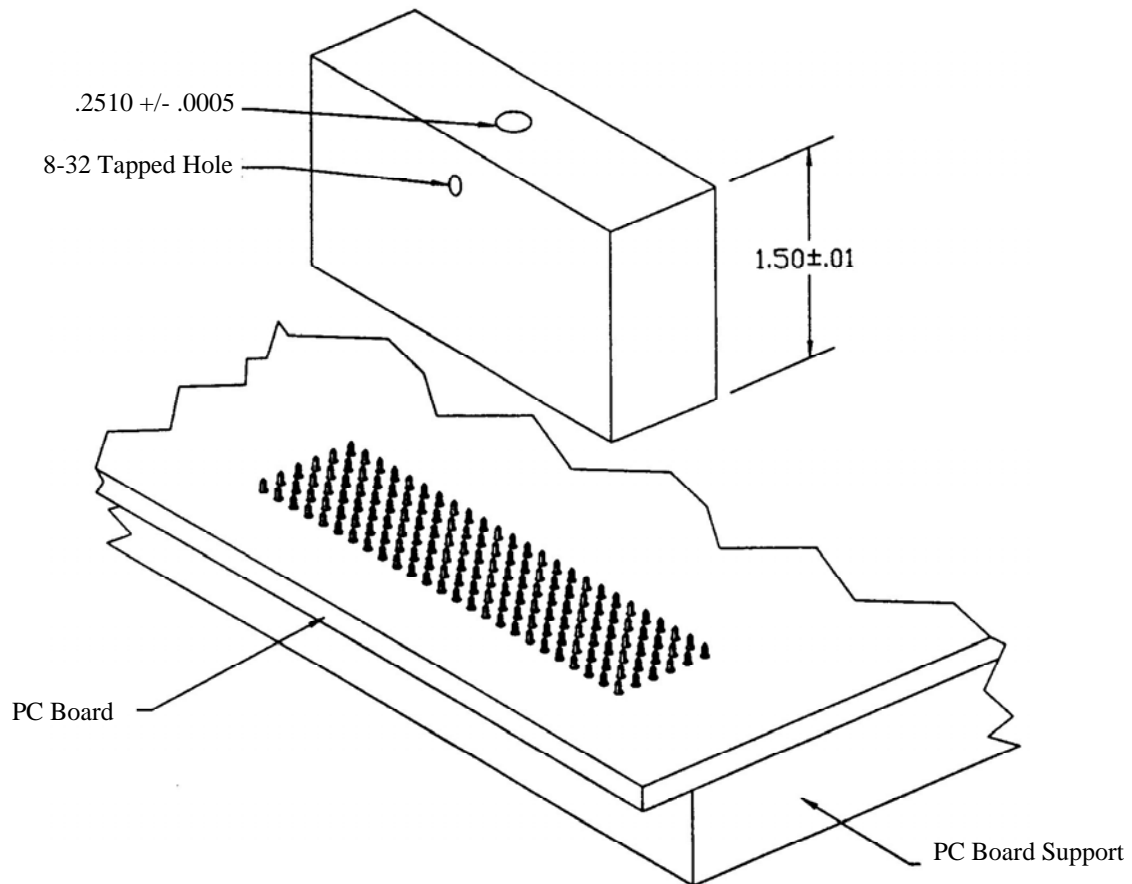

Figure 1
- 1.1 This technical bulletin covers Amphenol TCS HDM Manual Extraction Tool, Part Nos. 600-1750-000 and 600-1751-000. These tools are used to press the connectors listed in Figure 1 into a printed circuit board. The contacts are on 2mm x 2mm spacing.